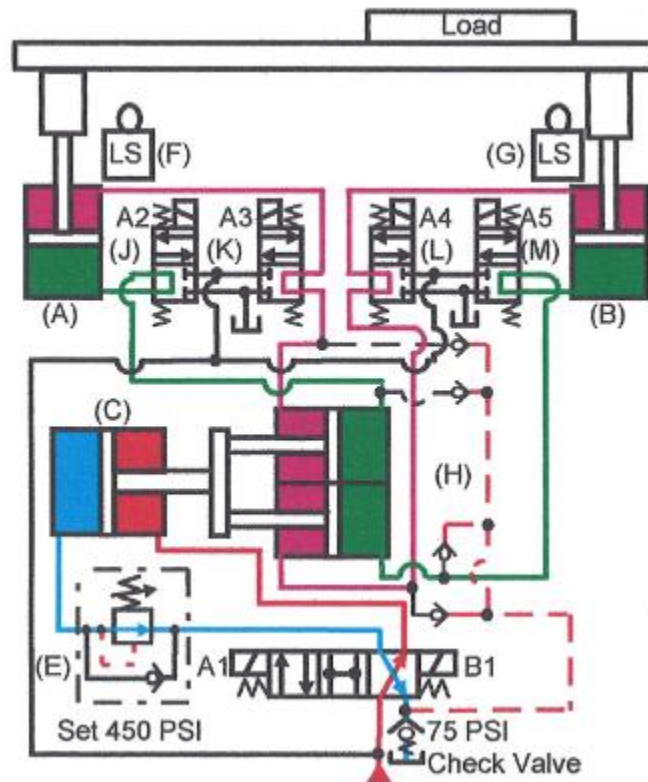

Figure 22-31. Master-and-slave-cylinder synchronizing circuit. Solenoid B1 energized, retracting.
To retract the working cylinders, energize solenoid B1 on the 4-way directional valve as in Figure 22-31. Cylinder (C) then retracts and pulls both slave cylinders (D) back, forcing working cylinders (A) and (B) to retract also.